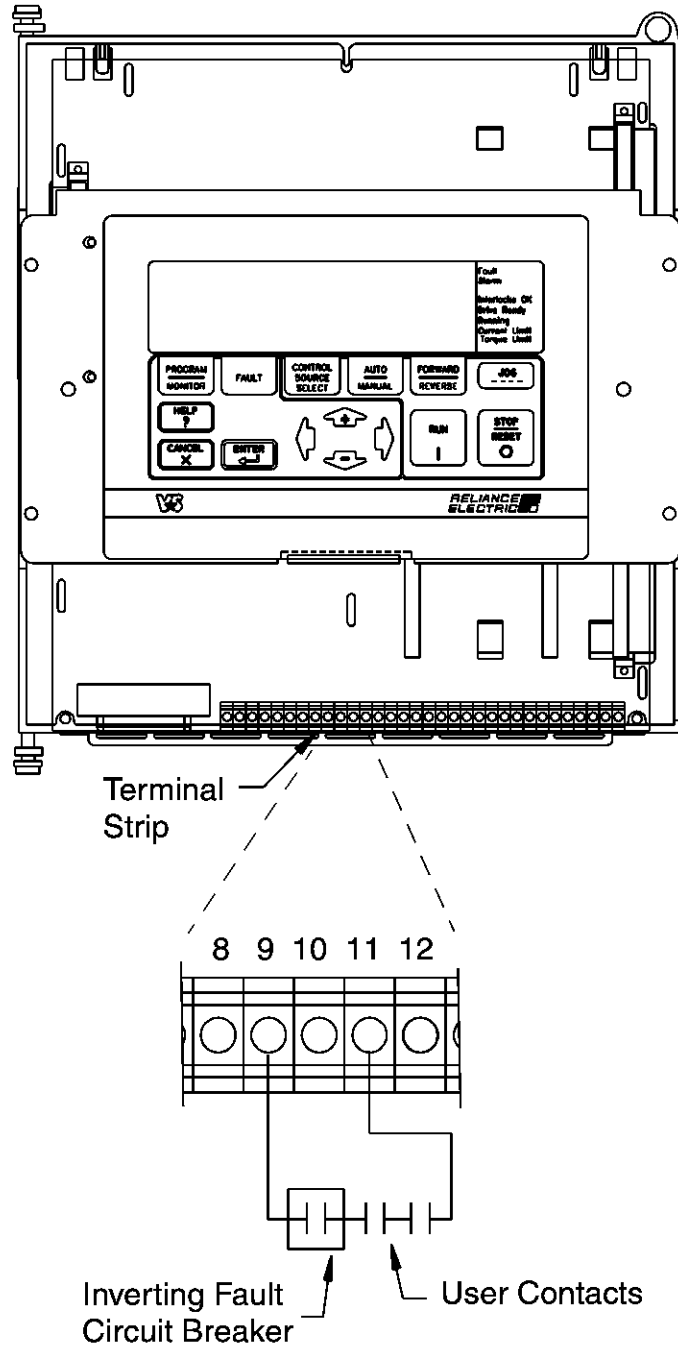

Figure 10 – Control Terminal Strip
- Step 5. Connect the spade connectors of the twisted pair harness [Item 6] to the male connectors on the yellow lead and the blue/yellow striped lead coming out of the Inverting Fault Circuit Breaker (see figure 9). Route this harness to the bottom of the drive. Cut the wires to length as required, and connect them to terminals 9 and 11 on the Regulator board control terminal strip. See figure 10.